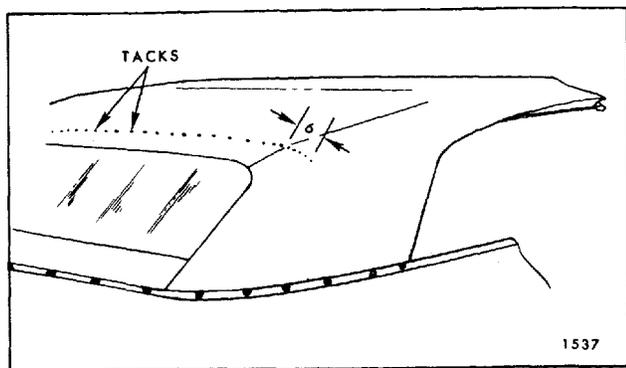

Fig. 6-42—Tacking Outboard Of Seams
**IMPORTANT:** Tacks must be installed along a straight line in center of rear bow. (See Fig. 6-42). Tacks outboard of deck seams should be restricted to distance not to exceed six inches, which is length wire-on binding extends past seam (Fig. 6-42).